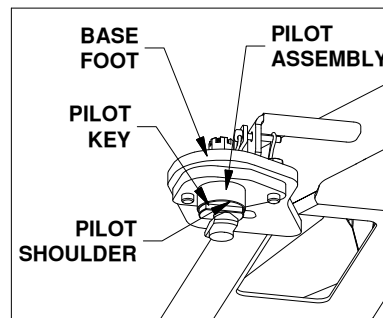
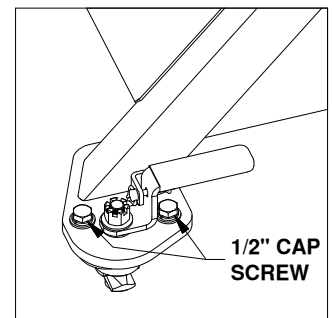

Figure C3: View under base foot
Figure C4: View of a base foot.
2. Each leg of the Companion base has an adjustable pilot assembly which is attached to the foot with two 1/2" cap screws, as shown in Figure C3. To adjust the pilot assemblies that do not fit into the attachment points, loosen both the 1/2" cap screws so the pilot assembly can move freely, see Figure C4. Set the base over the attachment points and adjust the pilot assemblies until the pilot keys pass through the slot in the attachment points and the pilot shoulders rest flat against the top of the attachment points. When all the pilot assemblies are aligned and inside the attachment points, push the base towards the cab and use a tape measure to verify that the base is approximately square with the truck bed. Tighten any loose cap screws to 80 ft-lbs.